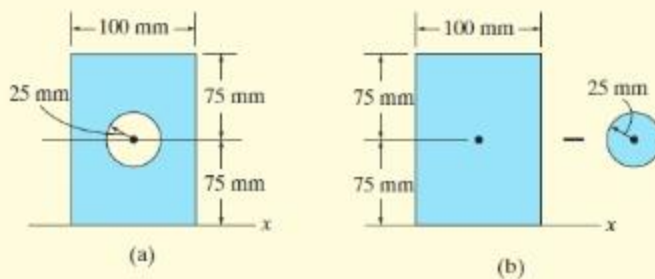

Fig. 10–8
Determine the moment of inertia of the area shown in Fig. 10–8a about the  $x$  axis.
**Composite Parts.** The area can be obtained by *subtracting* the circle from the rectangle shown in Fig. 10–8b. The centroid of each area is located in the figure.